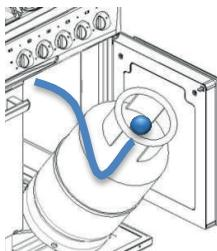
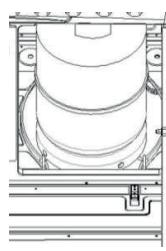

Figure 16A
Figure 17
- As shown in the Figure16A, first place the lower part of the cylinder and then place the top part of the cylinder (figure 17).